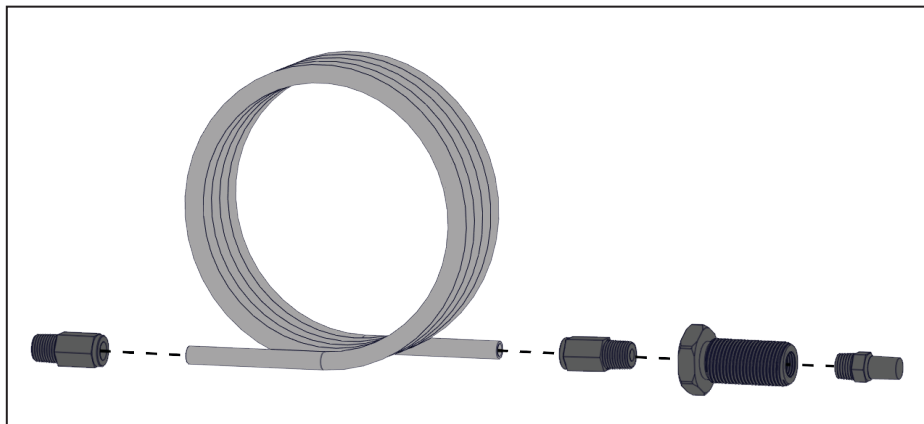

Figure 39 — Tubing Installation Remote Blowdown Muffler assembly
- Install the tube into the push-to-connect bulkhead fitting (Figure 39)